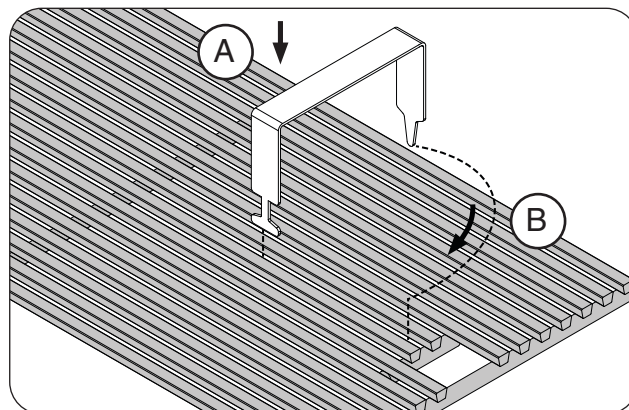

Fig. 20-2 Install cooking grids
1. With the prongs facing downward, insert the notched-end of the lifter between two grid rods, then rotate, as shown in Fig. 20-2, A & B.
2. Insert the rear pointed-end of the lifter between the same two rods (see Fig. 20-2, B) and carefully lift the cooking grid and place onto the front and rear grid rests of the grill (see Fig. 20-3). Repeat for all other cooking grids.